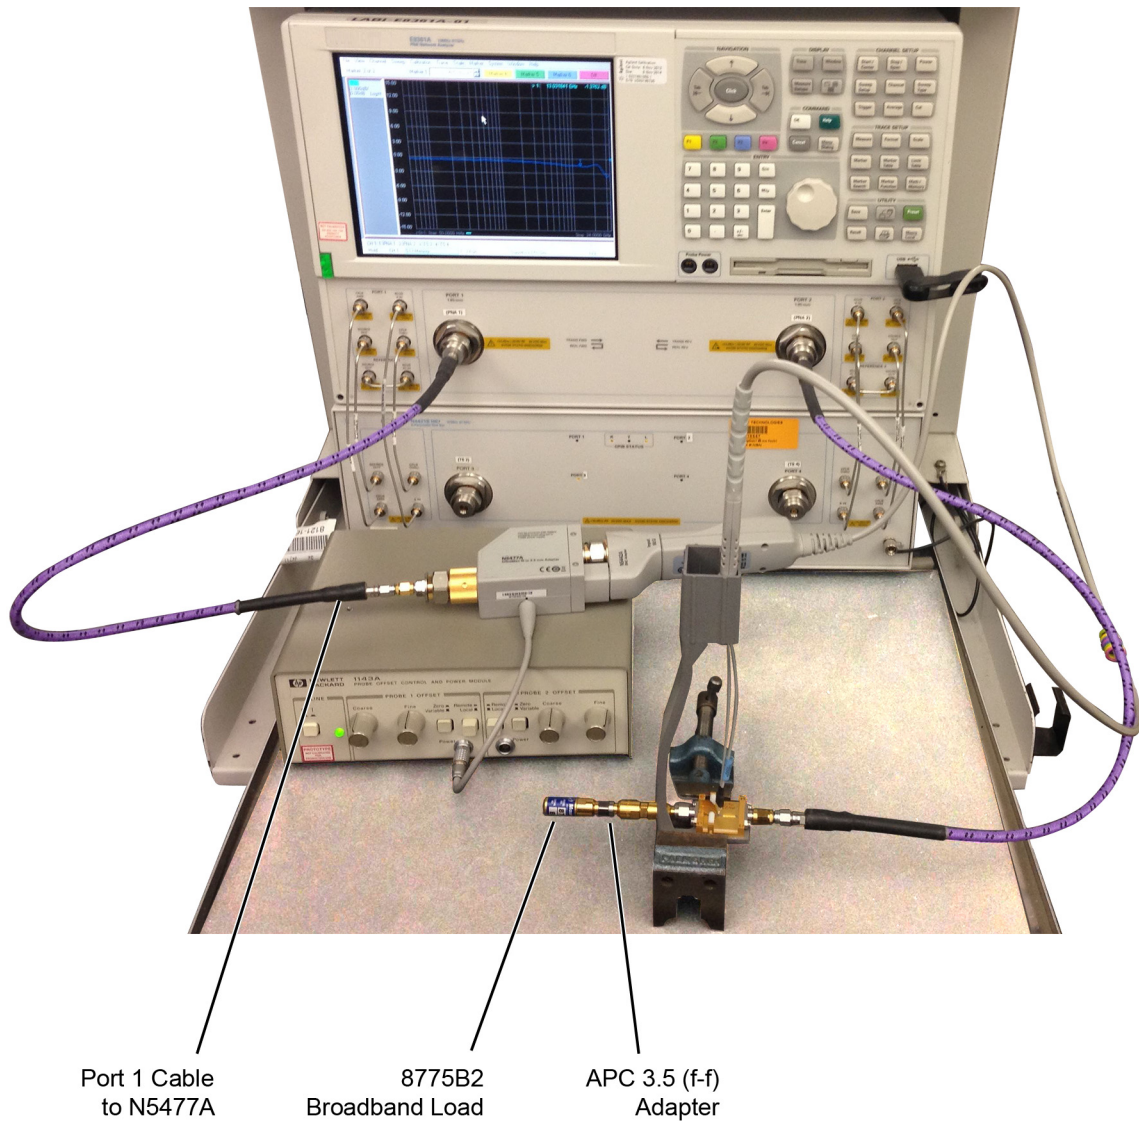

Figure 96 Test Setup to Measure V_{out} of Probe
- 12 As shown in **Figure 96** on page 124, move the Port 1 cable N5477A. Connect the 8775B2 broadband load as shown in the figure.